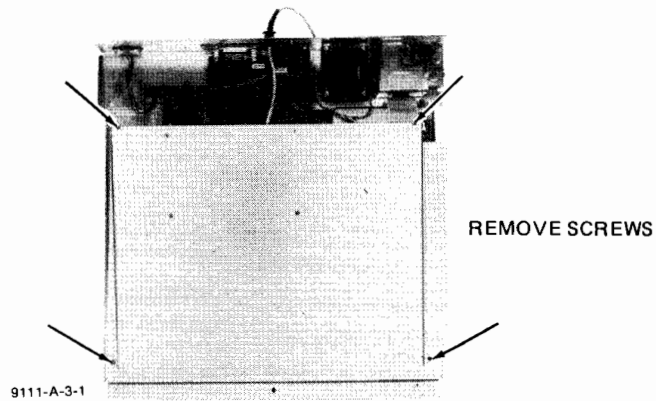

Figure 4-9. Platen Support Removal
- b. Remove the 4 screws securing the platen support to the chassis. See Figure 4-9.